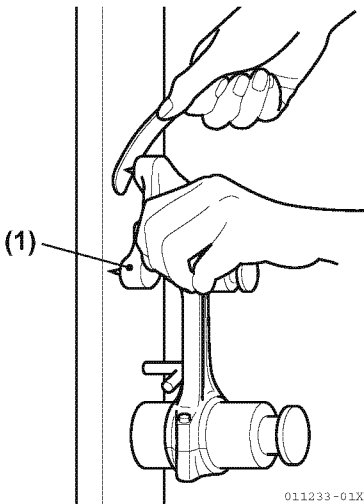

Figure 5-40
2. Measure the alignment using connecting rod alignment tool (Figure 5-40, (1)).